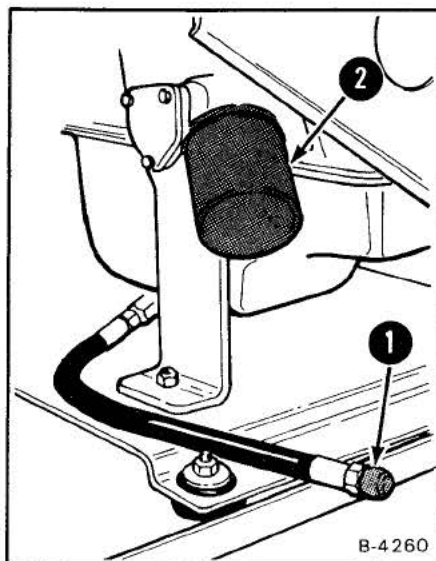

Fig. 49 Drain Cap
2. Remove the oil drain cap (Fig. 49, Item 1). Remove all the oil from the engine.
3. Remove the oil filter (Fig. 49, Item 2).